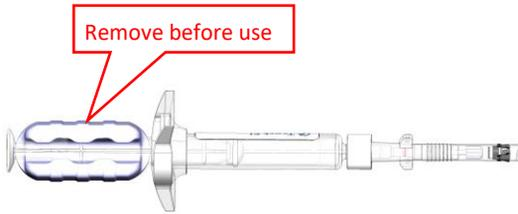

Figure 12
9. **Remove the Unintended-Injection-Blocker** from the syringe plunger (Figure 12)